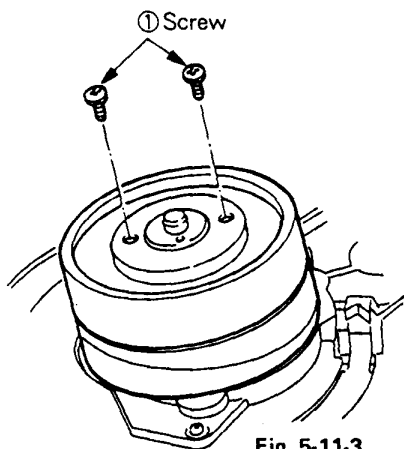

Fig. 5-11-3
- 1) Remove the two screws ① (see Fig. 5-11-3).